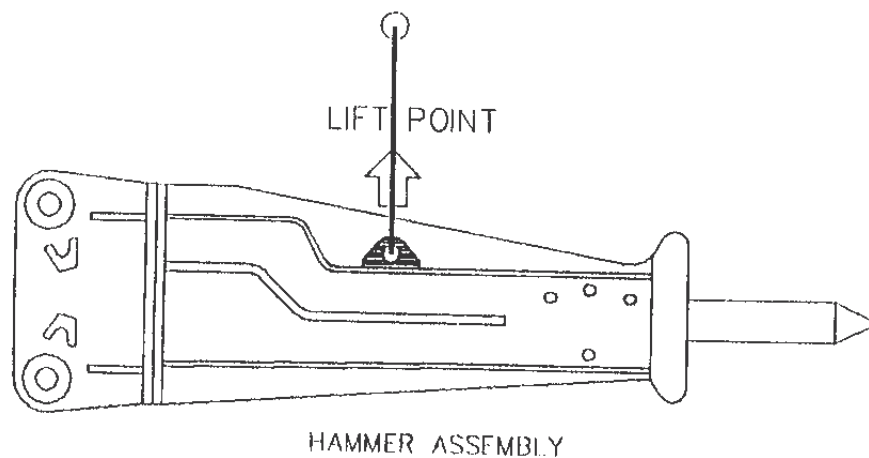

Figure 12-1. Hammer Lift Point
4. Lift the hammer at approved lift points only with appropriate lifting equipment. See Figure 12-1.